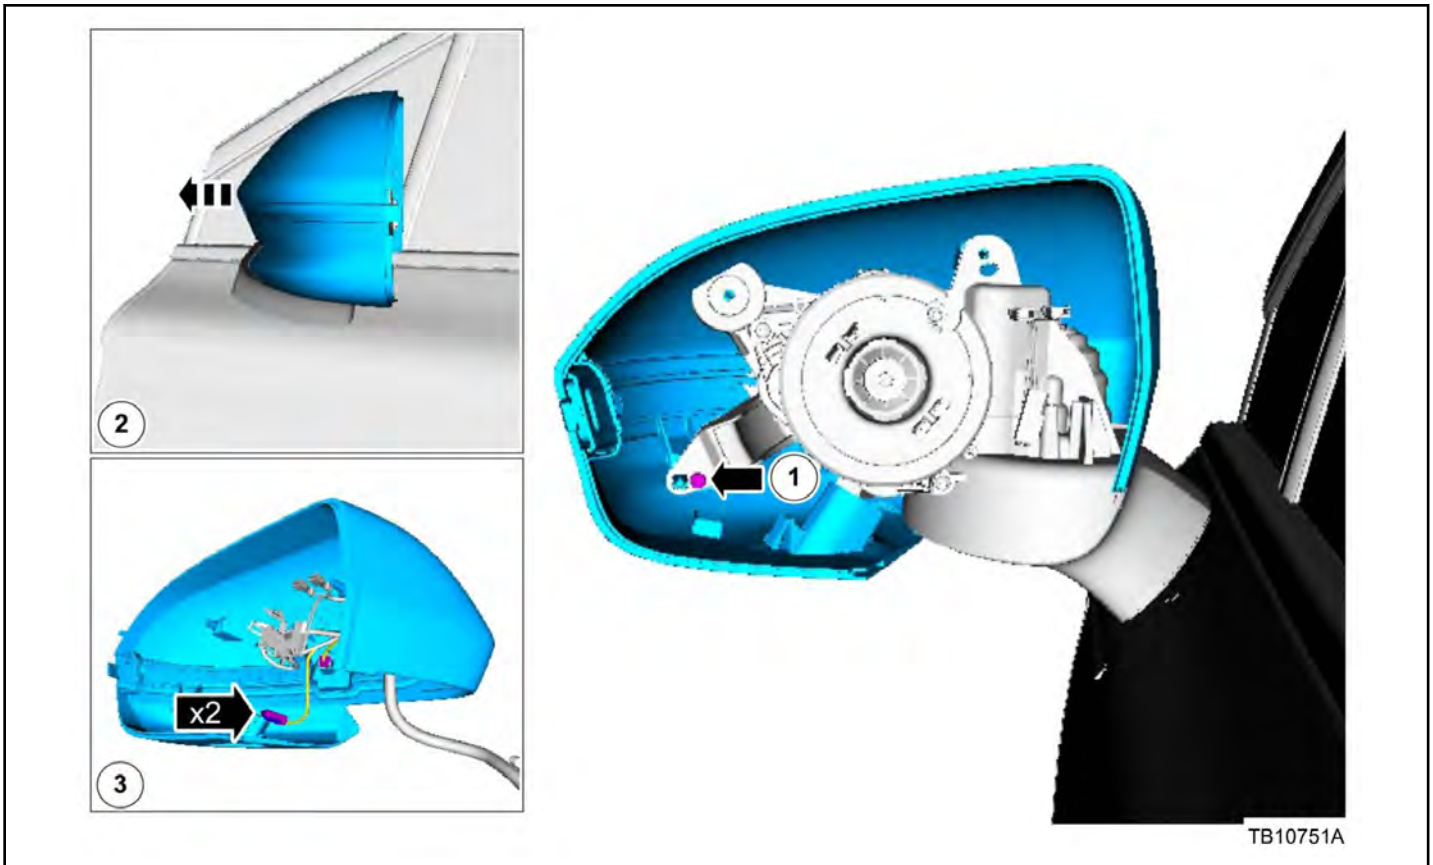

Figure 4 - Article 16-0022
4. Remove the screw and position the mirror cover aside. (Figure 4)